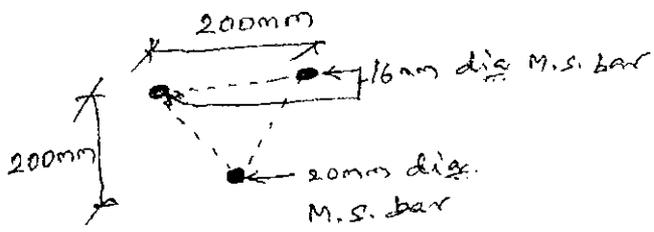

FIG. 3
23 (b) The built-up triangular beam section is composed of three bars placed as shown in fig.3 (refer page 4 of 4). This section will be used as a beam over a simply supported span of 6m. Calculate the maximum udl it can carry if the maximum allowable bending stress is limited to 150 N/mm². (16)